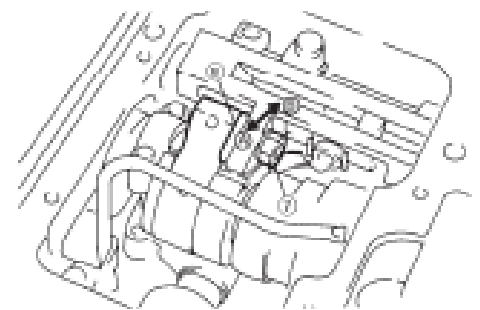

Fig. 11
Loosen nut (item 7) and move the crank pin (item 8) back in the direction of A as illustrated in Fig. 11.
Loose nut (item 7) and move the crank pin (item 8) forth in the direction of B as illustrated in Fig. 11.